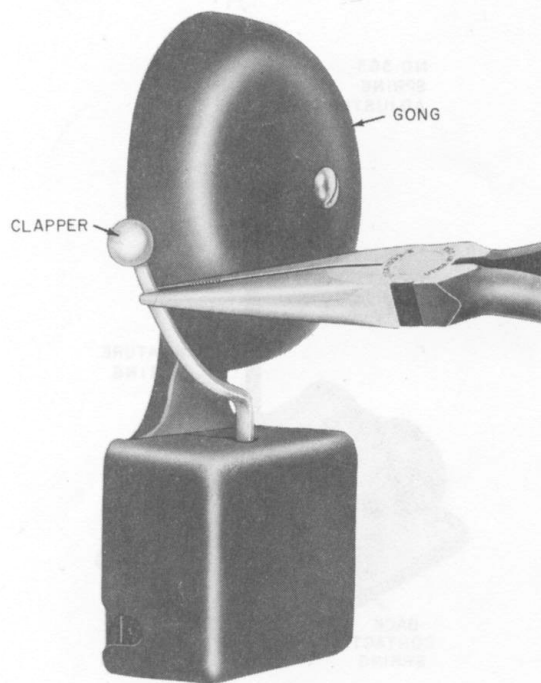

Fig. 19—Adjusting Clapper Movement
4.13 If 7-type bell armature vibrates satisfactorily, but the clapper does not strike gong or clapper arm strikes cover, adjust with long-nose pliers (Fig. 19).